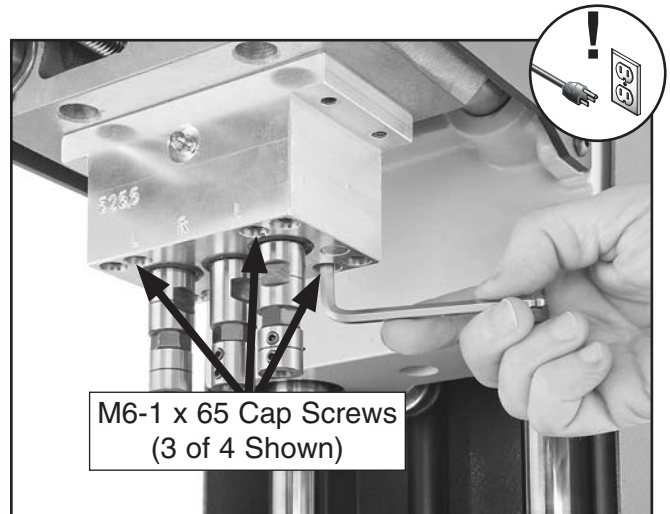

Figure 16. Securing boring head to machine.
- Secure the boring head with (4) M6-1 x 65 cap screws at the inside holes shown in **Figure 16**.